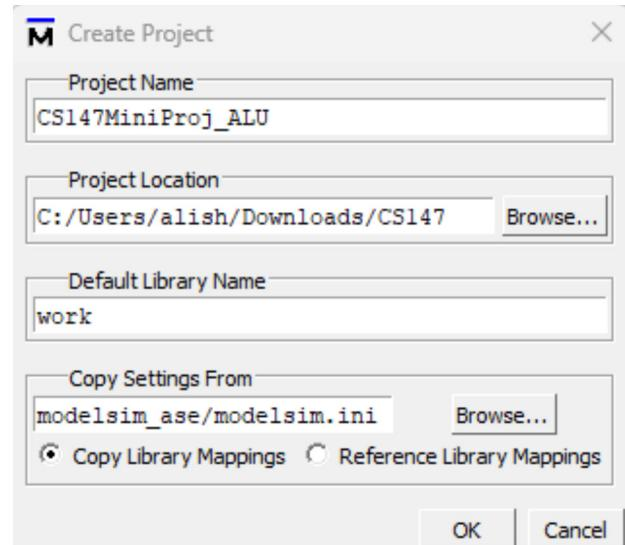

Fig. II.1. Creating a Project
3. Enter a project name (ex. CS147MiniProj\_ALU) and click OK. Shown in Figure II.1.